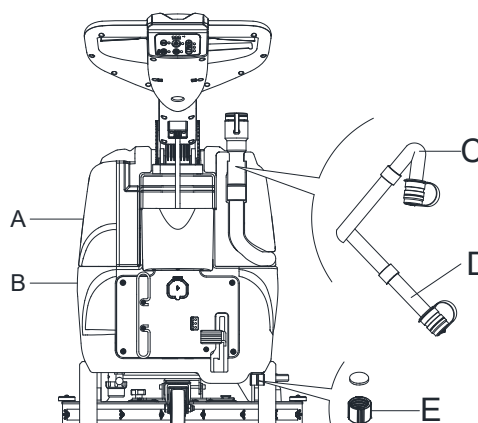

Figure 11
When draining the wastewater, the vacuum tube for waste must be folded (C, Figure 11) and lowered to a lower position (D, Figure 11), and then open the lid of the vacuum tube for waste to drain the water. Do not make the outlet of the vacuum tube for waste face upward to drain the water vertically. This is to avoid wastewater spilling onto the operator.
8. Empty the solution tank with the outlet cover (E, Figure 11). After working, rinse the tank with clean water.
2. Empty the tanks (A and B, Figure 11) as shown in the previous paragraph.